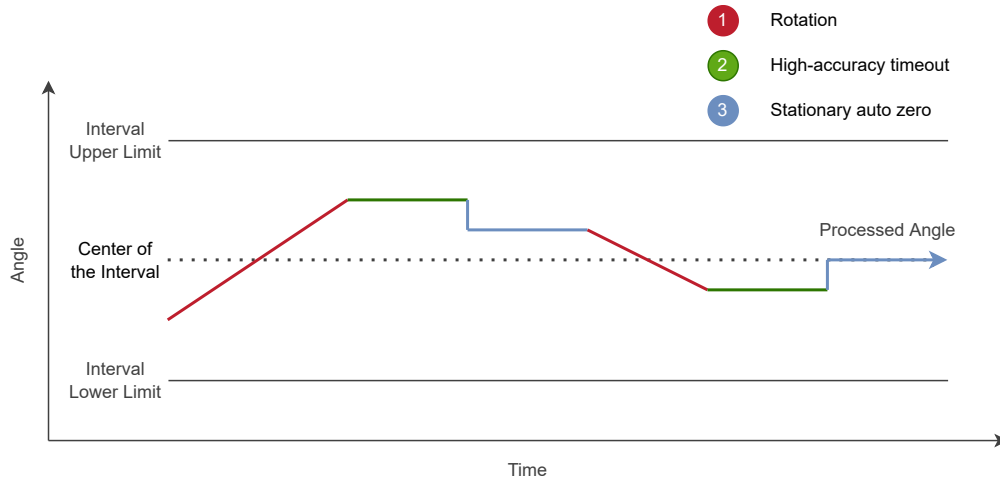

Figure 5.4: Stationary Auto-zero Behaviour
- > **Stationary**: An auto-zero event will occur when the high-accuracy timeout event occurs. A single adjustment is made to the absolute angle offset each time the device exits high-accuracy mode. The **auto-zero beta** parameter defines the size of the adjustment, with an auto-zero beta value of 0 resulting in a jump to the exact center of the interval. This behaviour can be viewed in Figure 5.4.